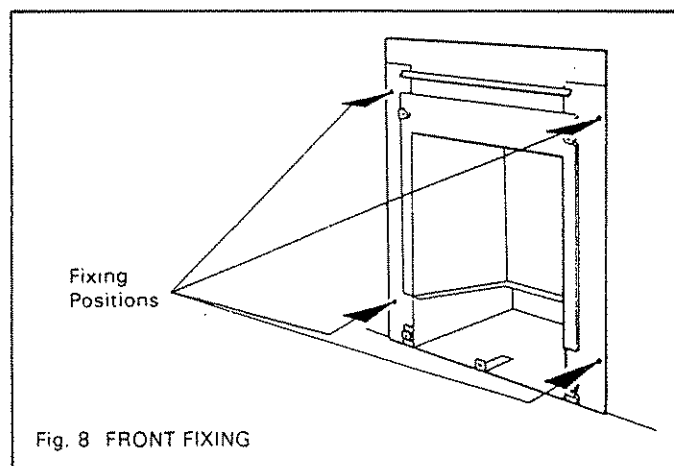

Fig. 8 FRONT FIXING
- 7.1.1.2 Mark the fireplace surround at the position of the two fixing holes in each of the front side flanges of the convection box (see fig. 8).